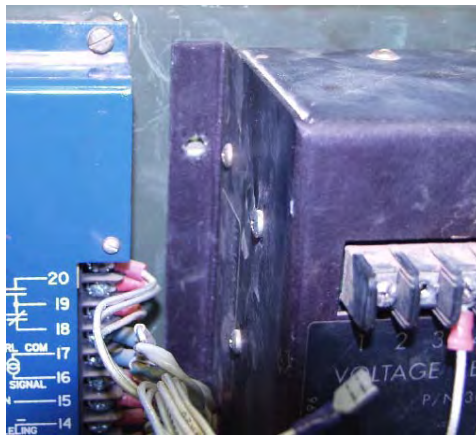

Figure 1. Location of fuse folder.
3. Remove the top left mounting screw for the Voltage Regulator (A1). (Figure 1.)